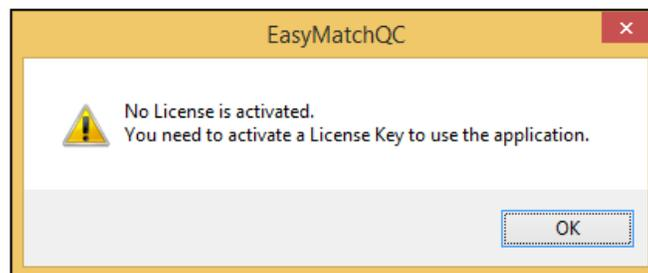

Figure 8. No License Warning
2. A warning message to activate the license will be displayed as shown in Figure 8.